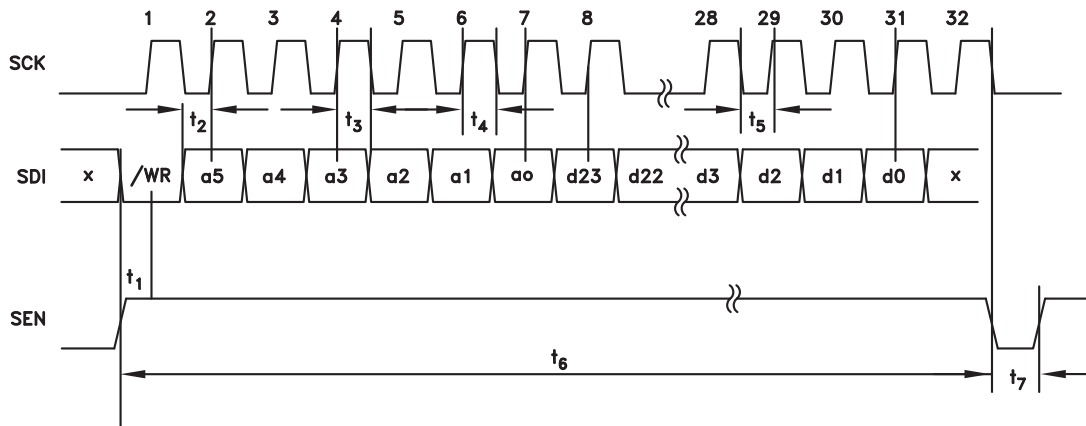

Figure 7. Serial Port Timing Diagram - Write Serial Port WRITE Operation
A typical WRITE cycle is shown in Figure 7.
- The Master (host) asserts both SEN (Serial Port Enable) and SDI to indicate a READ cycle, followed by a rising edge SCK. Note: The Lock Detect function is multiplexed onto the LD\_SDO pin. It is suggested that lock detect (LD) only be considered valid when SEN is low. In fact LD will not toggle until the first active data bit toggles on LD\_SDO, and will be restored immediately after the trailing edge of the LSB of serial data out as shown in Figure 7.
- The slave (synthesizer) reads SDI on the 1st rising edge of SCK after SEN. SDI high initiates the READ cycle (RD).